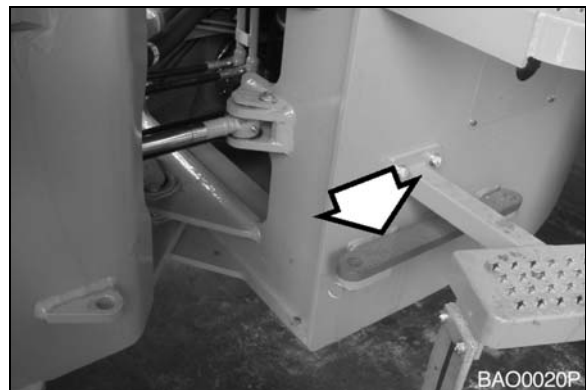

Figure 22
1. Unlatch frame lock plate between front and rear frames before traveling. Secure lock plate to rear frame (Figure 22).